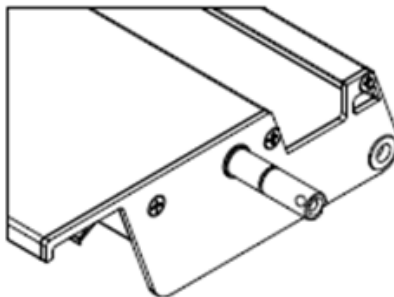

Fig. 14
13. The assembly of the blades should begin with the insertion of the two drive blades (17). These are in packet no. 7 and have different pins on the drive side - the thread inside the pin (fig. 14).